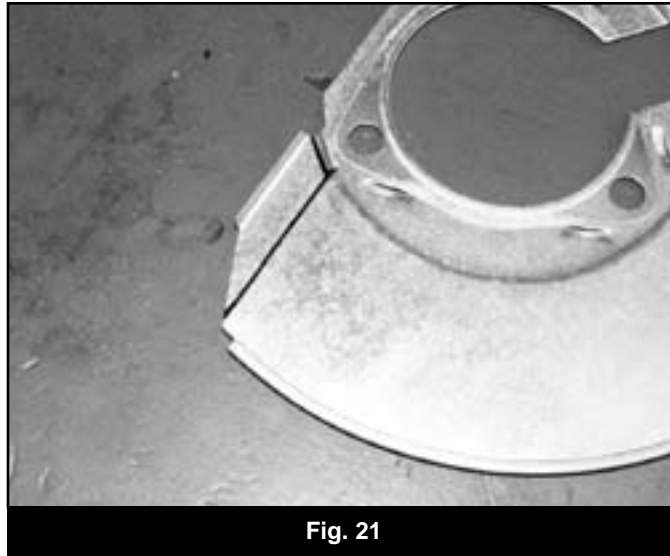

Fig. 21
44. The brake dust shield needs to be trimmed. Measure in from the lower vertical edge (opposite the ABS sensor location) 3/4" and make a vertical cut line along the entire flat section (Fig 21). Cut the mark section off of the brake dust shield.